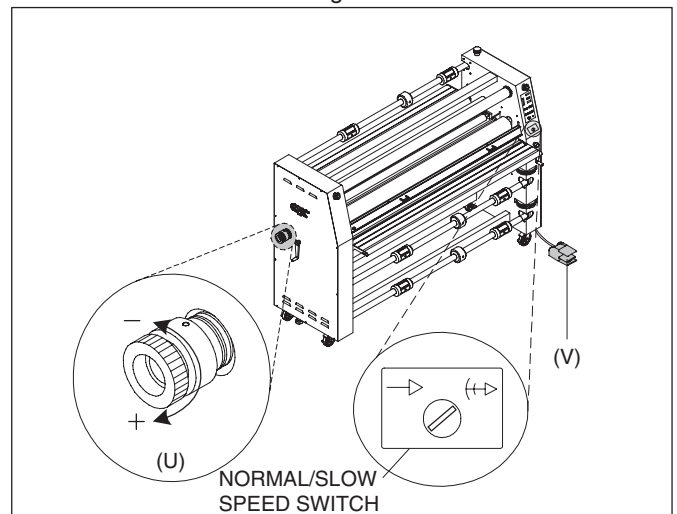

Fig 16
U. CLUTCH: (Figure 16) Used to increase or decrease pull roller clutch tension. Clockwise rotation will increase clutch tension while counterclockwise rotation decreases clutch tension.